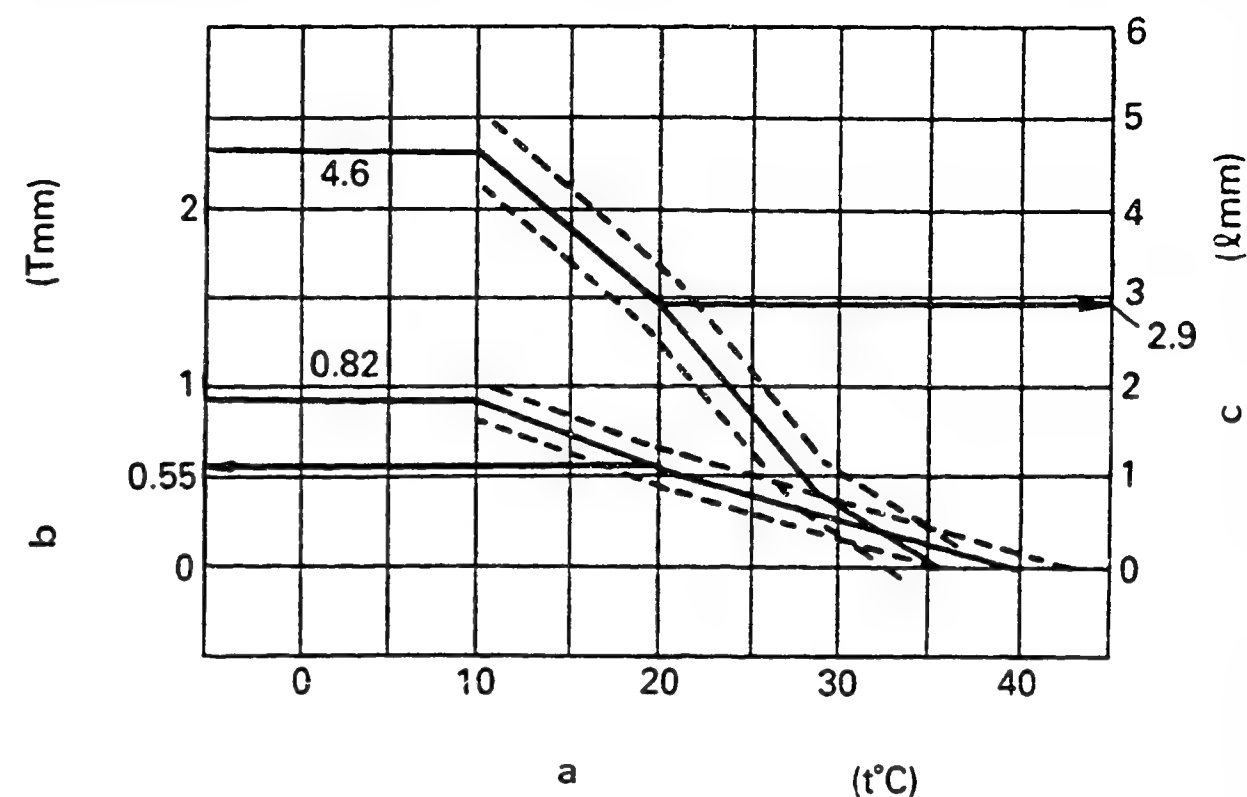

Fig. 47
Calculate the timer stroke from Fig. 47 according to the atmospheric temperature at the time of adjustment. Adjust using timer stroke adjusting screw (1) so that the timer stroke is as calculated in Fig. 47.
Insert the thickness gauge $l = \pm 0.05$ mm, as shown in the diagram (Fig. 47), between the idling adjusting bolt (7) and the control lever (6), and tighten the idling stopper bolt (2) at the point where the roller of the CSD lever (3) touches the intermediate lever (4).